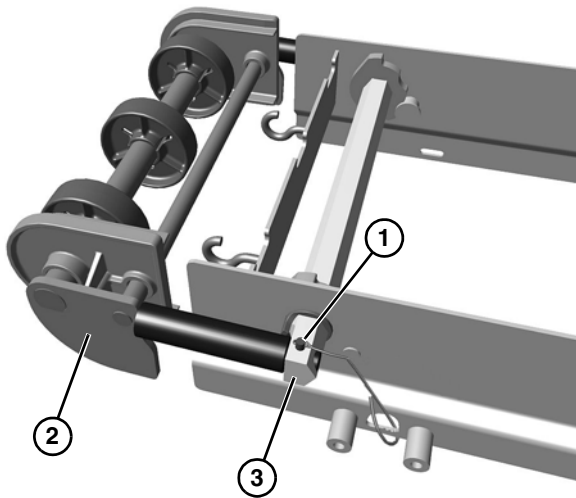

Figure 57
1. Remove the pull pins (Figure 57, item 1) from both sides of idler tail assembly.
2. Slide the idler tail assembly (Figure 57, item 2) out of the tip up hex shaft assembly (Figure 57, item 3).